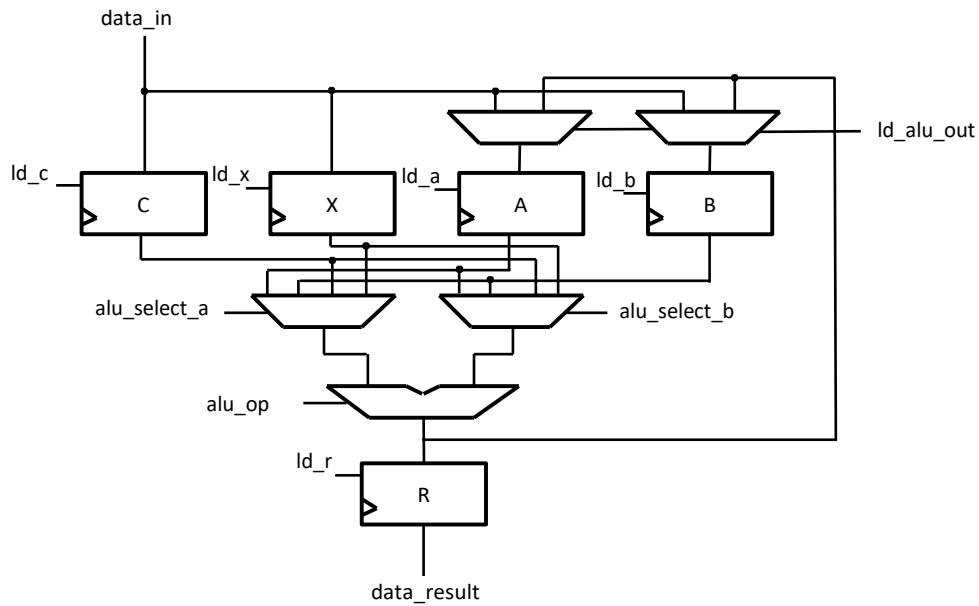

Figure 4: Block diagram of datapath.
Figure 4 shows the block diagram of the datapath you will build. Resets are not shown, but do not forget them. The datapath will carry **8-bit unsigned values**. Assume that the input values are small enough to not cause any overflows at any point in the computation, i.e., **no results will exceed $2^8 - 1 = 255$** . The ALU needs only to perform addition and multiplication, but you could use a variation of the ALU you built previously to have more operations available for solving other equations if you wish to try some things on your own. There are four registers R_x , R_A , R_B and R_C used at the start to store the values of x , A , B and C , respectively. The registers R_A and R_B can be overwritten during the computation. There is one output register, R_R , that captures the output of the ALU and displays the value in binary on the LEDs and in hex on the HEX displays. Two 8-bit-wide, 4-to-1 multiplexers at the inputs to the ALU are used to select which register values are input to the ALU.
- (c) Read the datapath code and identify all the components shown in Figure 4 when looking at the datapath module.
- (d) Identify all the control signals shown in Figure 4 and where they are generated in the control module. You should see that all the control signals are generated by the FSM in the control module.
- (f) Which states do the actual computation? Identify those states and find the sequence of control signals. Observe how the computation is done by using Figure 4 and seeing how that sequence of control signals does the required operation.